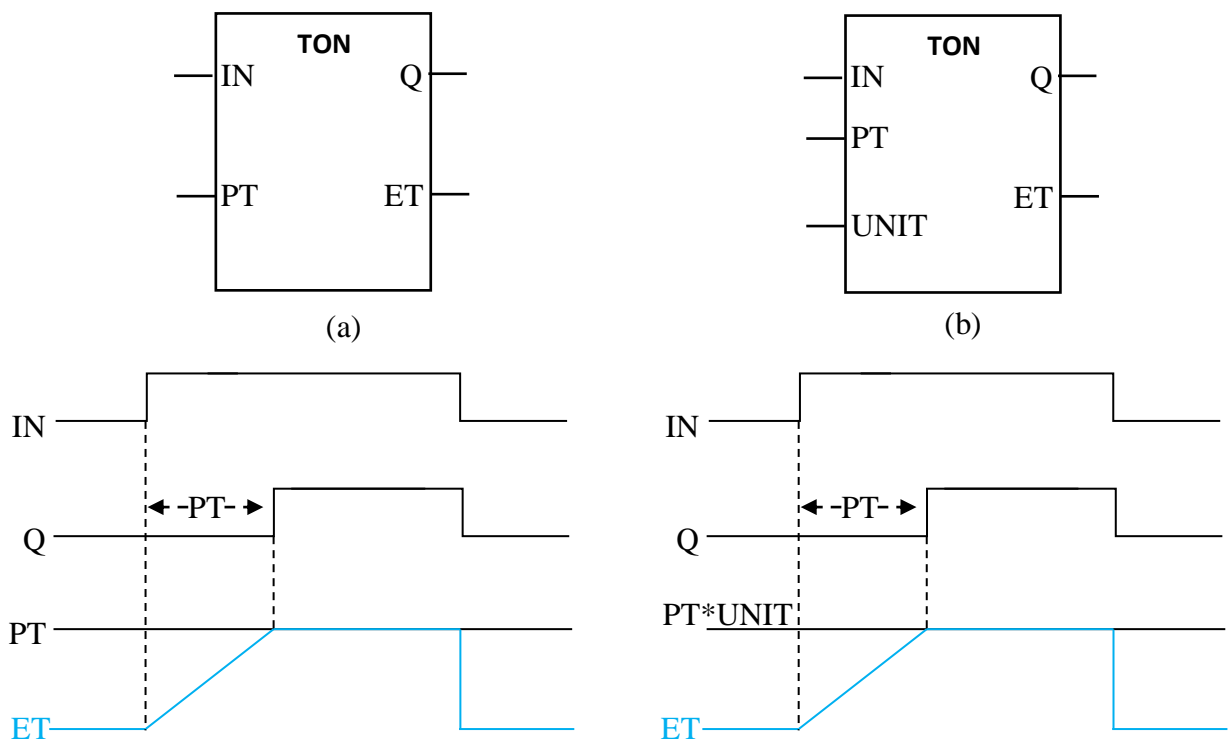

Figure 1: ON delay timers a): On timer b): On timer of integer setting.
ON delay timers are used to create contact instructions (Q) that becomes active after preset time interval passage. These timers instructions are classified in to direct time setting timers (TON) in which the time setting is the time assigned to the input PT (here PT is of TIME data type) and indirect or integer time setting (TON_UINT) in which the time setting is the product of integer type preset time setting (PT) and integer type time unit (UNIT). Both has an enable input (IN) to activate or deactivate the instruction and an output variable ET to register and display the elapsed time. Figure 1 displays the ladder symbols of these timers and also their timing diagram.